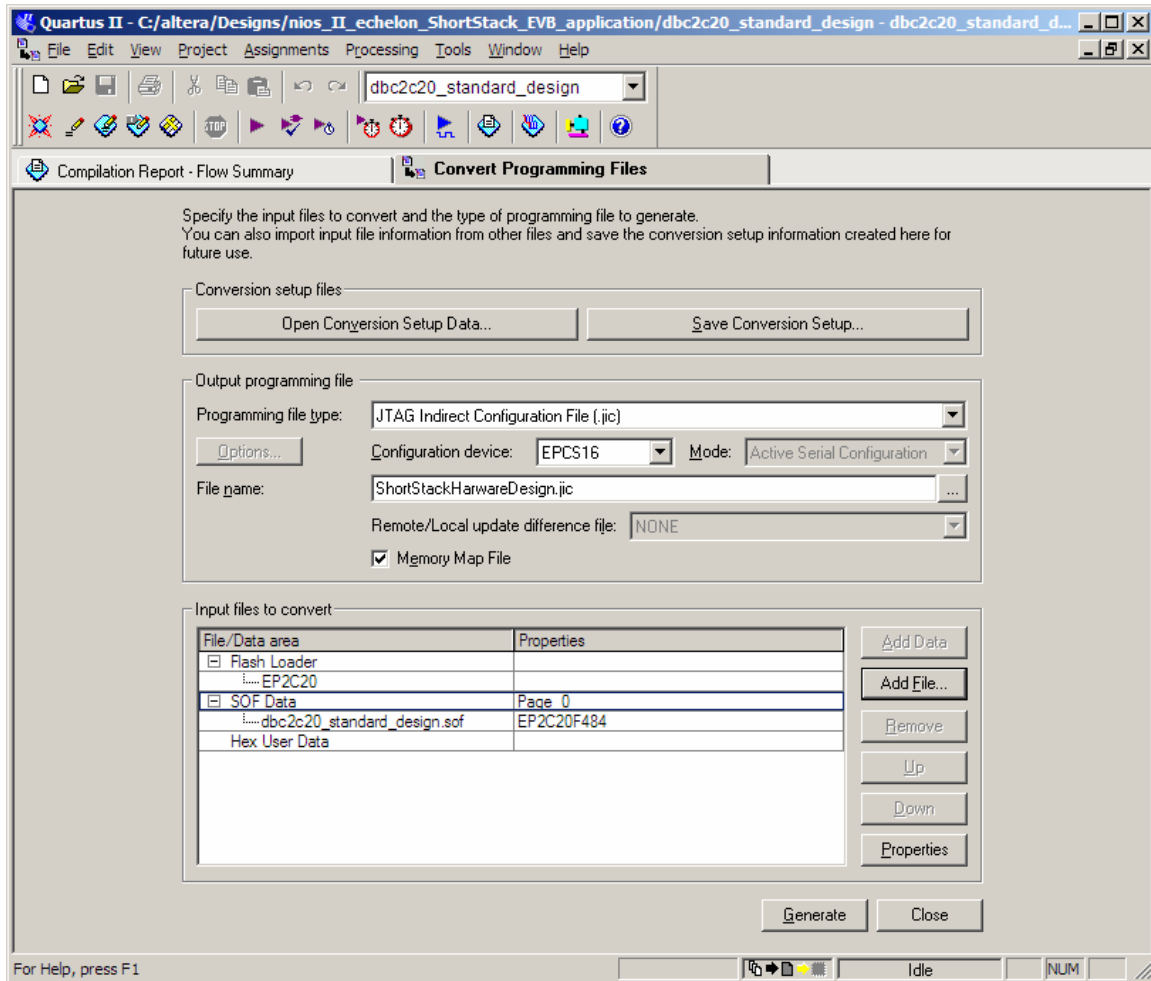

Figure 6. Quartus II Convert Programming Files Window
- h. Verify that the Convert Programming Files window looks similar to **Figure 6** on page 35.